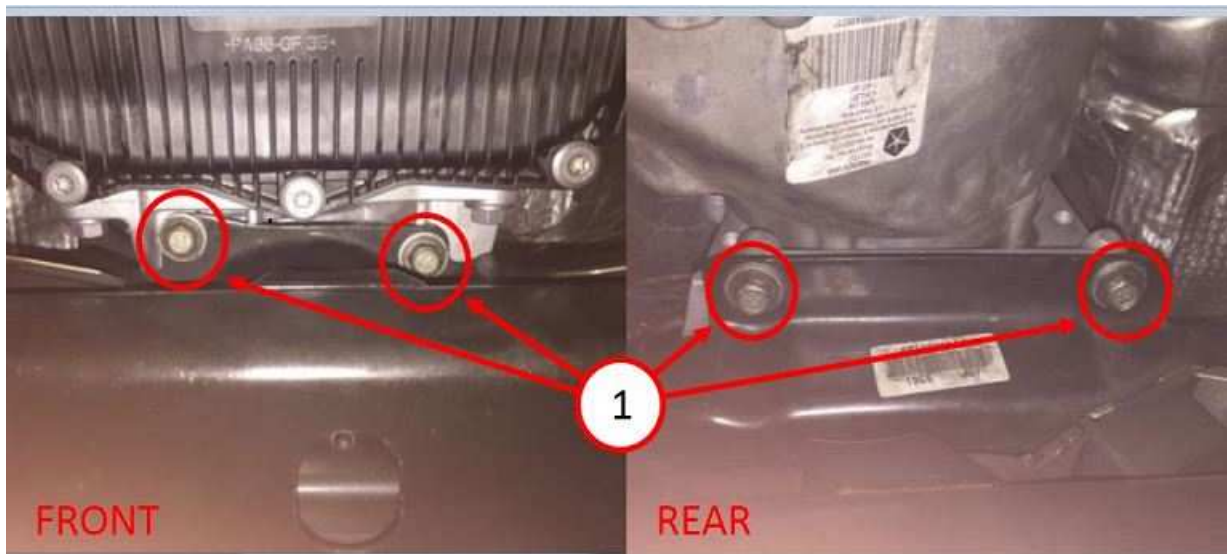

Fig. 2
- Remove the four bolts securing the transmission mount to transmission (Fig. 2) .